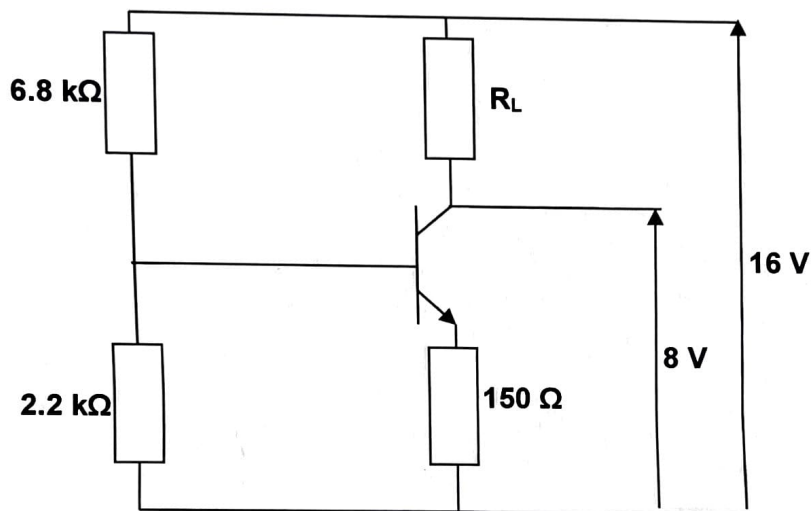

Fig Q9
- (i) unity; (2)
- (ii) 0.8 lagging; (2)
- (iii) 0.8 leading. (2)
- (b) Explain why it is recommended that TWO *identical* a.c. generators running in parallel should operate at similar power factors. (5)
- (c) Explain how the power factor of parallel a.c. generators may be altered independently of the ship's load power factor. (5)
8. (a) State the main reasons why switchboard instruments are supplied via instrument transformers from the power circuits which they monitor. (4)
- (b) Explain why it is hazardous to open-circuit a current transformer whilst its primary is still energised. (4)
- (c) Sketch a circuit diagram showing an ammeter, a voltmeter and a wattmeter fed from a single-phase supply via current and voltage transformers. (4)
- Calculate the power factor of the circuit. (4)
9. Fig Q9 shows a transistor amplifier. The voltage between the transistor base and emitter is 0.6 V and the d.c. voltage at the output terminals is 8 V.
- the voltage between the collector and the emitter of the transistor; (4)
- the power dissipated in the emitter resistor; (3)
- the power dissipated in the transistor. (3)
- (b) Sketch the circuit diagram shown in Fig Q9, adding the additional components needed to make the circuit suitable for amplifying a.c. signals. (3)
- (c) State the purpose of the additional components sketched in Q9(b). (3)